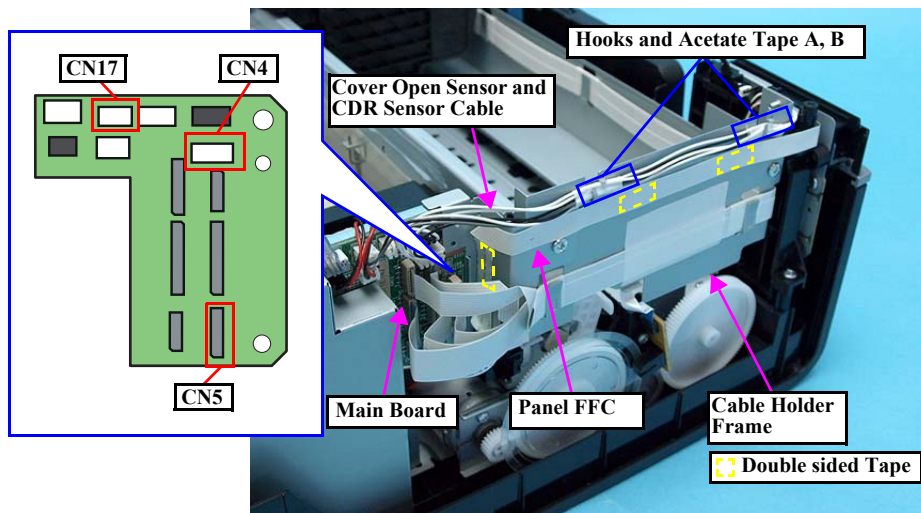

Figure 1-29. Removing the Panel Assy (1)
2. Peel off the double-sided tape that secures the Panel FFC to the Holder Frame and release the Panel FFC. (Fig.1-29 (p.30))